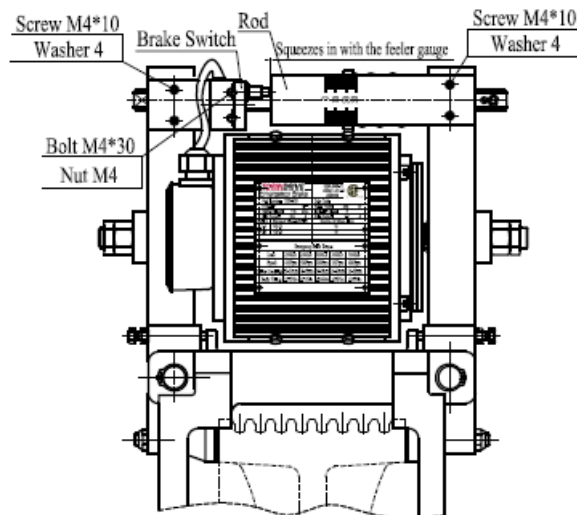
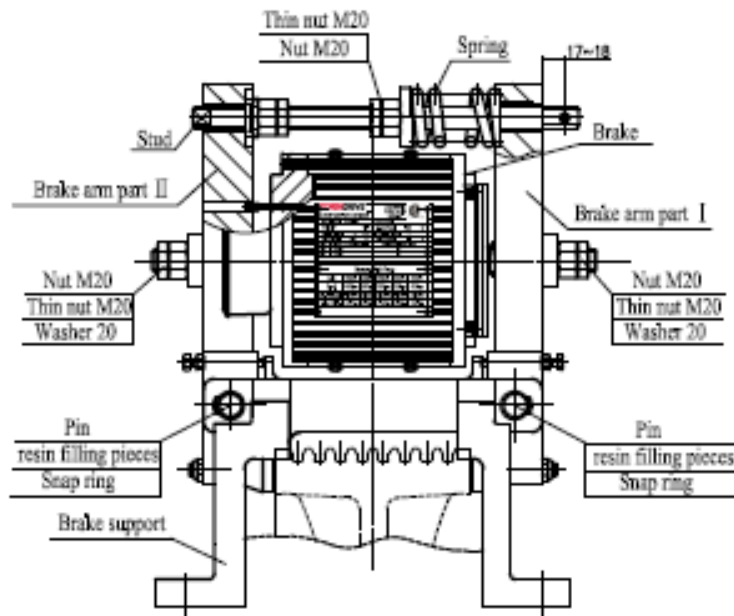

Figure 29 Emergency Brake
Figure 30 Emergency Brake Replacement
3. Remove the two (2) Screws M4X10 and then remove the Brake switch and plate. See Figure 29.
4. Remove the two (2) Screws M4X10 and then remove the Rod.
5. Loosen the Nut M20 and Thin nut M20, freeing the spring. See Figure 30.
8. Remove the two (2) snap rings, then use the large screwdriver and Rubber hammer to push the Pin out of the Brake arm part I.
12. Remove the two (2) snap rings and then use the Screwdriver and Rubber hammer to push the Pin out of the Brake arm part II.